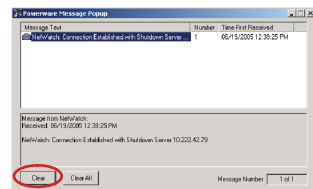

Figure 20. Clear Communication Message
13. A pop-up message indicates that communication with the card is established (see Figure 20). Select **Clear** to acknowledge the message.